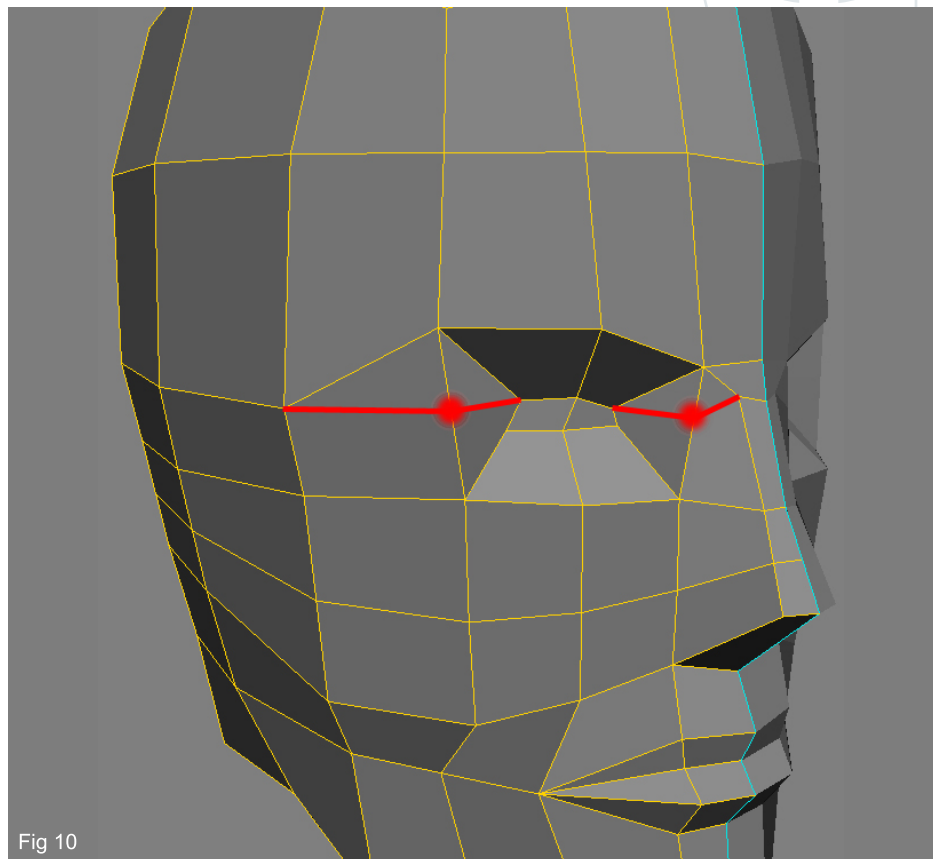

Fig 10
10. We can now concentrate on only one half of the head, seeing the result on the other half in realtime. Use the Add Edge tool to create two more cuts in the eye area, creating two new vertices (marked with red dots in Fig10):